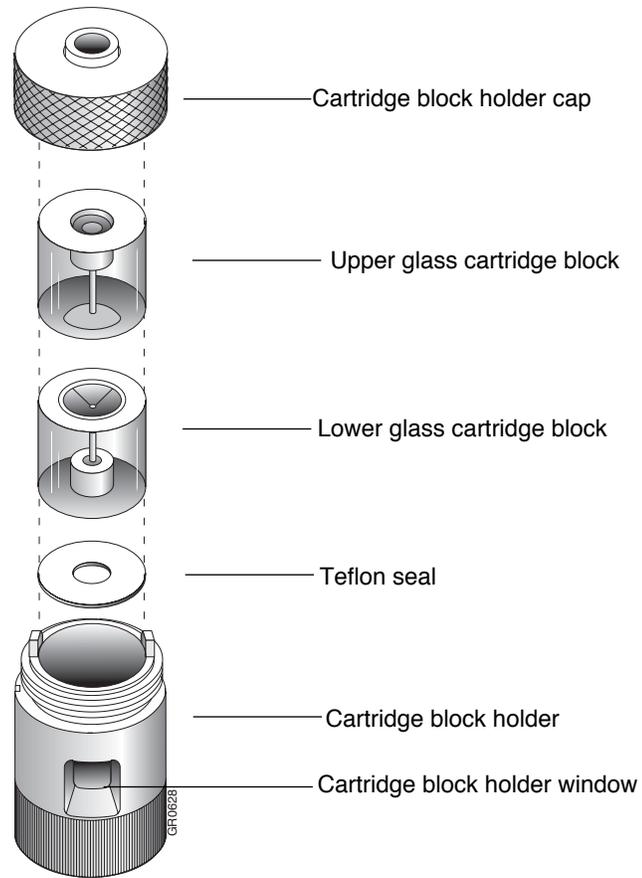

Figure 3-1 6 mm reaction cartridge components in upright position
The following pages describe how to load various sample types onto the reaction cartridges (Figure 3-1 on page 3-11). Separate loading instructions are provided for:
3. Unscrew and remove the cartridge block holder cap (Figure 3-1 on page 3-11).